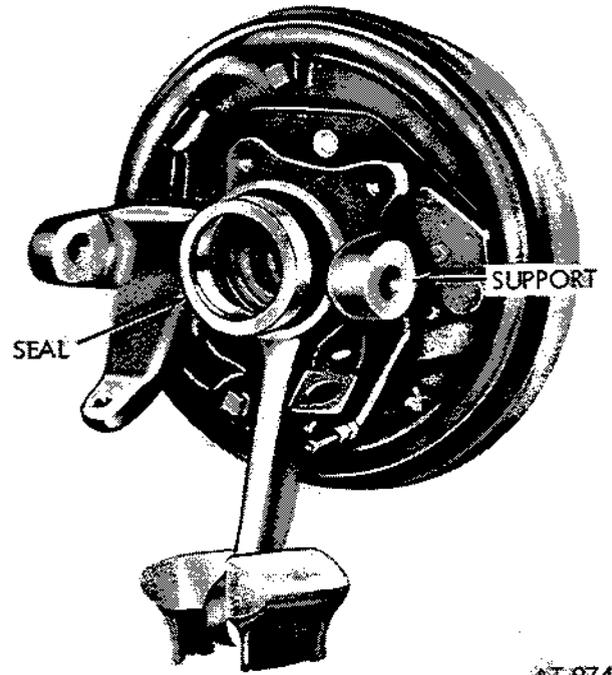
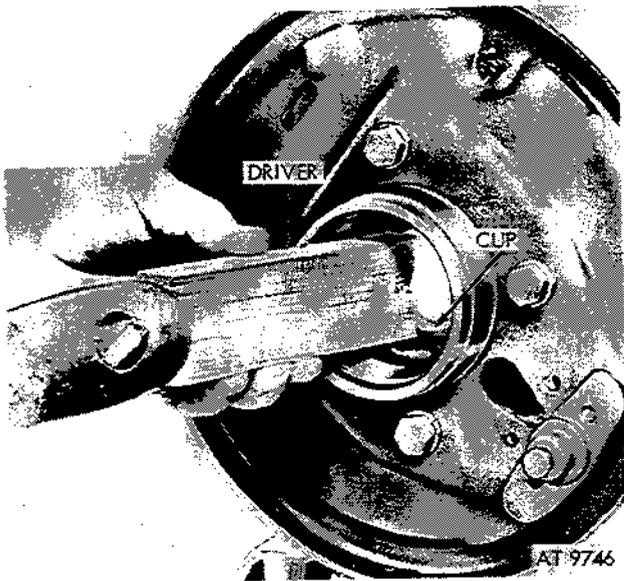
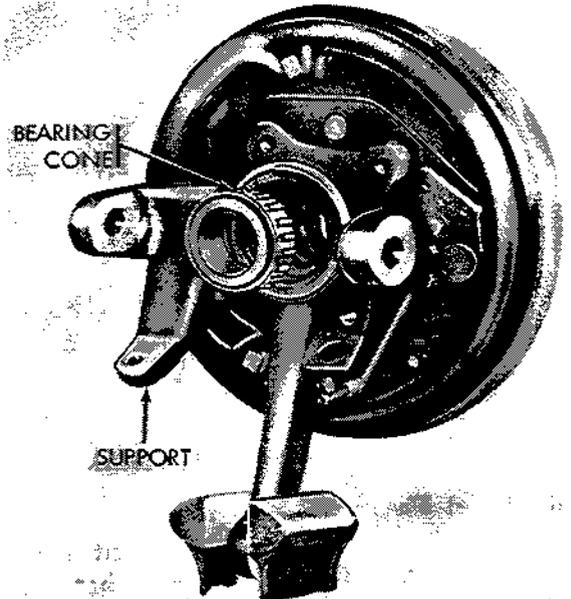

Figure 2-324. Remove seal from support.
Figure 2-323. Loosen bearing cup and seal.
Figure 2-325. Remove bearing and cone from support.
(1) Remove wheel spindle (para 2-138), drive flange (para 2-139) and support (para 2-140).
(2) Loosen inner bearing cup and seal using a block of wood or a brass drift (fig. 2-323).
(3) Remove seal (fig. 2-324), bearing and cone (fig. 2-325) and bearing cup (fig. 2-323) from support.
b. *Installation.* Install wheel inner seal, bearing and cup as given in operations (1) through (6) below.
(3) Pack bearing cone with grease (GAA) and position in bearing cup (fig. 2-325).
(4) Coat outside seating surface of seal with compound sealer MIL-S-45180 (FSN 8030-656-1426) and coat lips of seal with grease (GAA). Position seal in support (fig. 2-325).